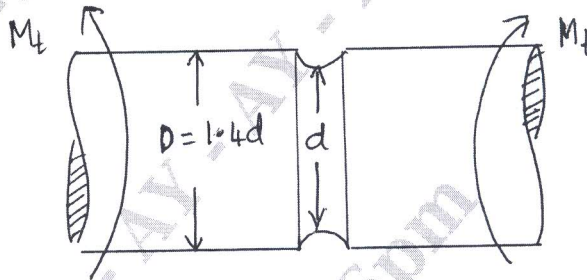

Fig.Q1(c)
- c. A grooved shaft shown in the Fig.Q1(c) is to transmit 5 KW at 120 rpm. Determine the diameter of the shaft at the groove if it is made of C₁₅ steel ($\sigma_y = 235.4$ MPa, factor of safety = 2)